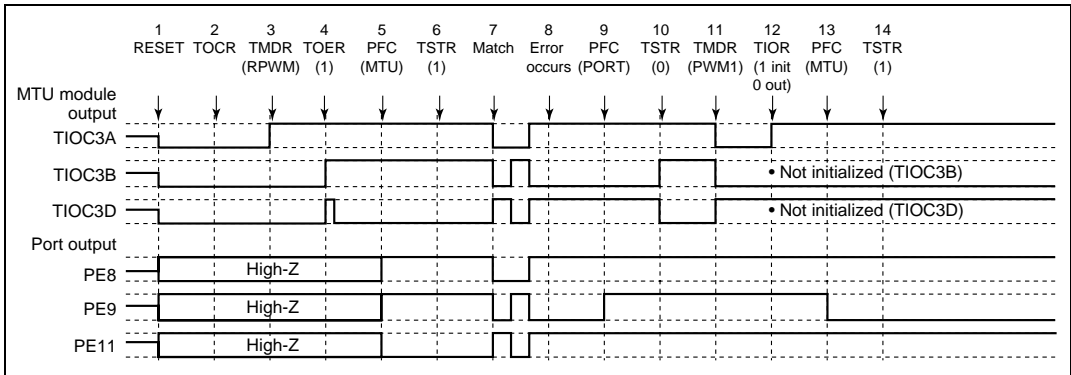

Figure 10.111 Error Occurrence in Reset-Synchronous PWM Mode, Recovery in PWM Mode 1
(27) Operation when Error Occurs during Reset-Synchronous PWM Mode Operation, and Operation is Restarted in PWM Mode 1: Figure 10.111 shows an explanatory diagram of the case where an error occurs in reset-synchronous PWM mode and operation is restarted in PWM mode 1 after re-setting.